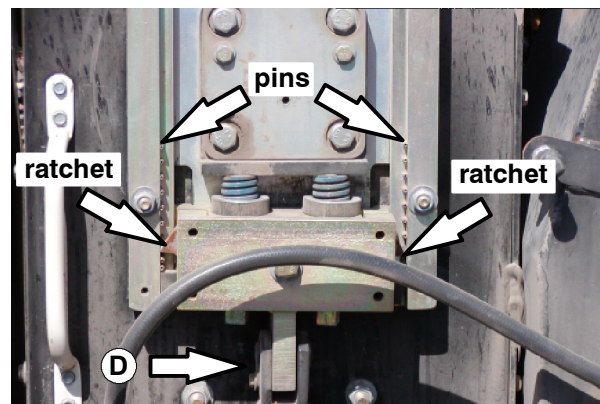

FIG. 1
5. Clean both ratchet mechanisms and area surrounding the ratchet mechanisms. (Refer to Fig.1)
1. Check the conveyor assembly to see where the ratchets are resting. Refer to Fig. 1 for locations of pins and ratchets.
5. Remove the retainer fastener (A) and the washer (B) from the chain tensioning cylinder (C) and upper clevis pin (D). Refer to Fig. 1 for location of upper clevis pin (D).
6. Remove the upper clevis pin (D) from the chain tensioning cylinder (C) and the spring block (E). Refer to Fig. 1 for location of upper clevis pin (D).
7. Loosen the plugs (F) supporting the coil springs (G) until it is possible to slide a washer (H) onto the spring block (E).
8. Tighten the plugs (F) so the coil springs (G) move up inside the washers (H) and the plugs (F) bottom out inside the spring block (E). The cup of the plug (F) must be flush with the bottom of the spring block (E).
9. Position the chain tensioning cylinder (C) back onto the spring block (E) and insert the clevis pin (D) back into the chain tensioning cylinder (C) and the spring block (E).
10. Reinstall the retainer fastener (A) and the washer (B) back into the clevis pin (D) and the chain tensioning cylinder (C). Refer to Fig. 1 for location of upper clevis pin (D).
12. Repeat Steps 4 through 11 to install the washers (H) onto the other side of the conveyor. Proceed to Step 13 after washers are installed on both sides of the conveyor.
1. Remove the retainer fastener (A) and the washer (B) from the chain tensioning cylinder (C) and upper clevis pin (D). Refer to Fig. 1 for location of upper clevis pin (D).
2. Remove the upper clevis pin (D) from the chain tensioning cylinder (C) and the spring block (E). Refer to Fig. 1 for location of upper clevis pin (D).
3. Loosen one plug (F) supporting the coil spring (G) until it is possible to slide a washer (H) onto each coil spring (G).
4. Tighten the plug (F) from the previous step so the coil spring (G) moves up inside the washer (H) and the plug (F) bottoms out inside the spring block (E). The cup of the plug (F) must be flush with the bottom of the spring block (E).
5. Loosen the other plug (F) supporting the coil spring (G) until it is possible to slide a washer (H) onto each coil spring (G).
6. Tighten the plug (F) from the previous step so the coil spring (G) moves up inside the washer (H) and the plug (F) bottoms out inside the spring block (E). The cup of the plug (F) must be flush with the bottom of the spring block (E).
7. Position the chain tensioning cylinder (C) back onto the spring block (E) and insert the clevis pin (D) back into the chain tensioning cylinder (C) and the spring block (E). Refer to Fig. 1 for location of upper clevis pin (D).
8. Reinstall the retainer fastener (A) and the washer (B) back into the clevis pin (D) and the chain tensioning cylinder (C). Refer to Fig. 1 for location of upper clevis pin (D).
9. Repeat Steps 1 through 8 to install the washers (H) onto the other side of the conveyor.